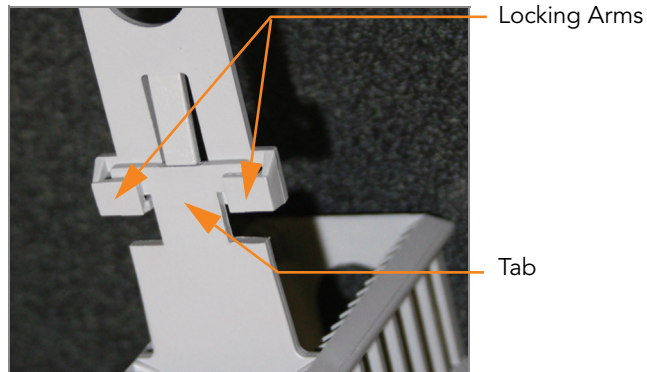

Figure 191 Staining Rack Locking Arms and Tabs
5. Submerge the unloaded staining rack into the wash dish with the locking arms and tab facing **towards** you (Figure 191). This orients the staining rack so that you can safely remove the BeadChips.